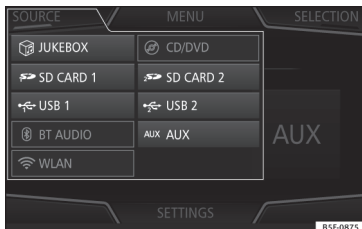

Fig. 223 MEDIA mode: change media source.
• From the *MEDIA* main menu, press the **SOURCE** function button » **Fig. 223** and select the desired media source.